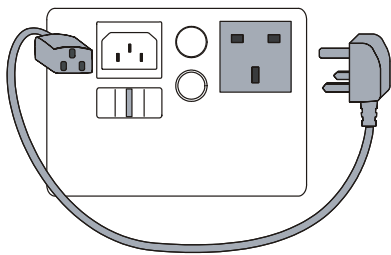

Figure 9. IEC-Lead Test Connections
- 1  Connect the IEC lead as indicated on the tester, see also Figure 9.